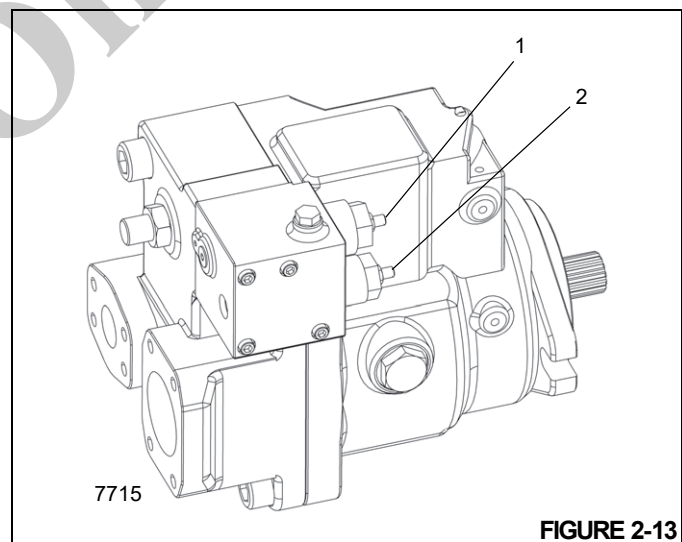

FIGURE 2-13
If margin pressure is not correct, adjust Load Sense (LS) Adjusting Screw (2, Figure 2-13) at pump. Turn screw (2) clockwise to increase the setting; each turn gains 18.9 bar (275 psi). Tighten lock nut 12 lb-ft to secure the setting.
3. If maximum pressure is incorrect, adjust Pressure Compensating (PC) adjusting screw.
- Loosen locknut and turn PC adjustment screw (1, Figure 2-13) clockwise to increase the setting; each turn gains 99.9 bar (1450 psi). Tighten lock nut 16.2 nm (12 lb-ft) to secure setting.
- If LSRV pressure is not correct, adjust LSRV adjusting screw. Loosen locknut and adjust the setting. Turn PC adjustment screw (1, Figure 2-13) clockwise to increase the setting; each turn gains 58.6 bar (850 psi). Tighten lock nut 5.4 nm (4 lb-ft) to secure setting.